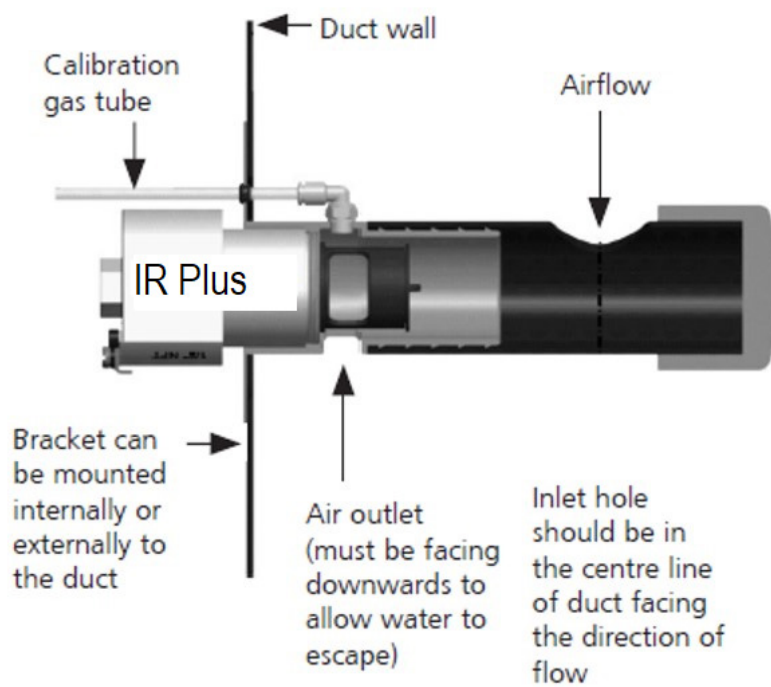

Figure 13: Duct Mount Illustration
4. Use the centre line marker to mark up the duct ready for drilling the required holes as indicated on Figure 13. Make sure that the centre line is positioned equidistant from the two edges of the duct.